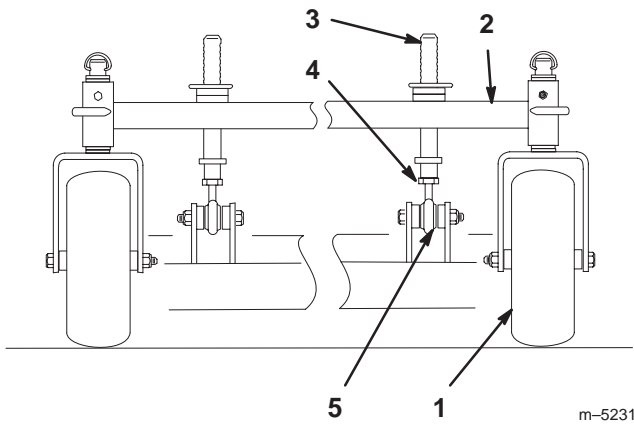

Figure 56
1. To change the front-to-rear pitch, the front height-of-cut posts can be adjusted (Fig. 56).
2. To raise the front of the deck, loosen jam nut and rotate the front pin clockwise (Fig. 56).
3. To lower the front of the deck, loosen jam nut and rotate the front pin counter clockwise (Fig. 56).